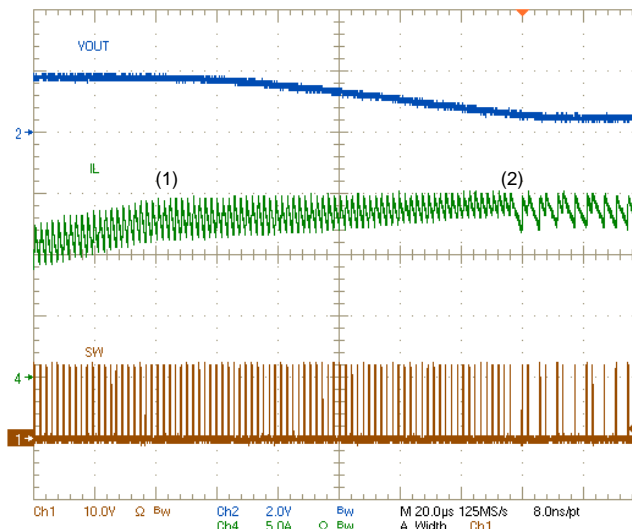

Figure 35. Example Current Limit Waveform
The device is protected from overcurrent conditions by cycle-by-cycle current limiting on both the high-side MOSFET and the low-side MOSFET. In an extended overcurrent condition the device enters hiccup to reduce power dissipation. Figure 35 shows the typical response with an overload on the output. At time (1) the high-side MOSFET peak current limit starts to limit the peak inductor current. At time (2) the low-side MOSFET forward current limit starts to cause the switching frequency to drop to prevent current runaway.